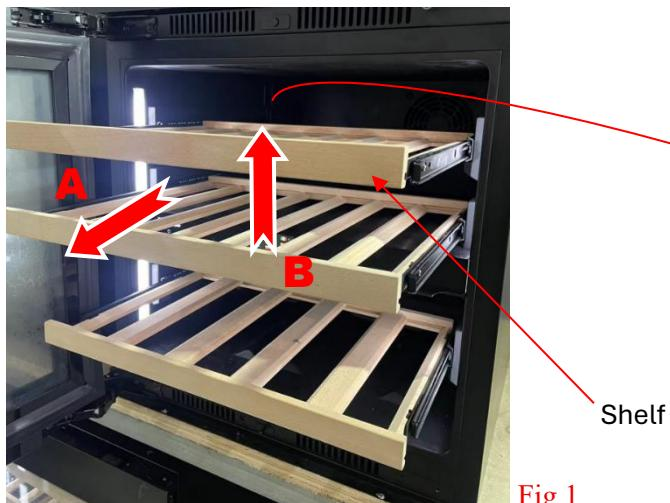
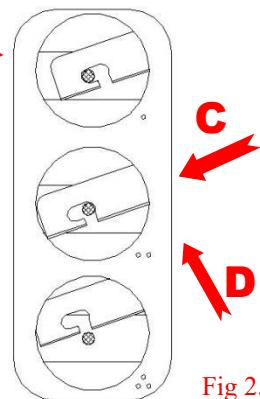

Fig 1
Fig 2.
Pull out the shelf (A) and lift the front end of the shelf(B)(Fig.1), then push the two side of the back end of the shelf to the appropriate position(C) and evenly lift the shelf up and then pull the shelf out(D)(Fig.2)